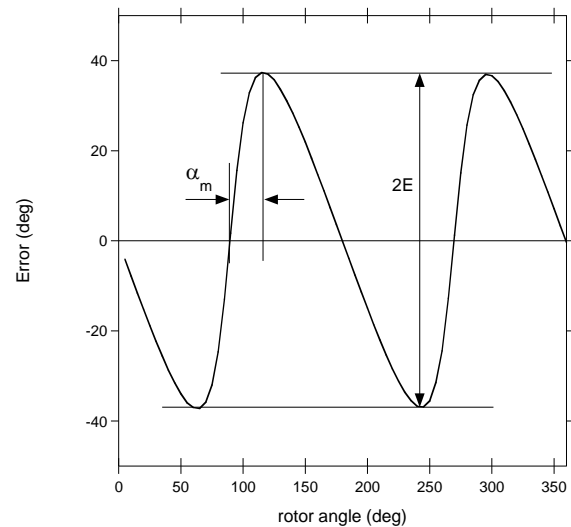

Figure 21: Error Curve in Side-Shaft Configuration with BCT = 0
The ratio k depends on the magnet geometry and the distance to the sensor. Having a k ratio different than one results in the sensor output response not being linear with respect to the mechanical angle. Note that the error curve has the shape of a double sinewave (see Figure 21). E is the amplitude of this error.
It is possible to deduce the k ratio from the error curve obtained with the default BCT setting (BCT = 0). For this purpose, rotate the magnet over one revolution and record the MagAlpha output. Then plot the error curve (the MagAlpha output minus the real mechanical position vs the real mechanical position) and extract two parameters: the maximum error E and the position of this maximum with respect to a zero crossing a_m (see Figure 21). k can be calculated with Equation (7):